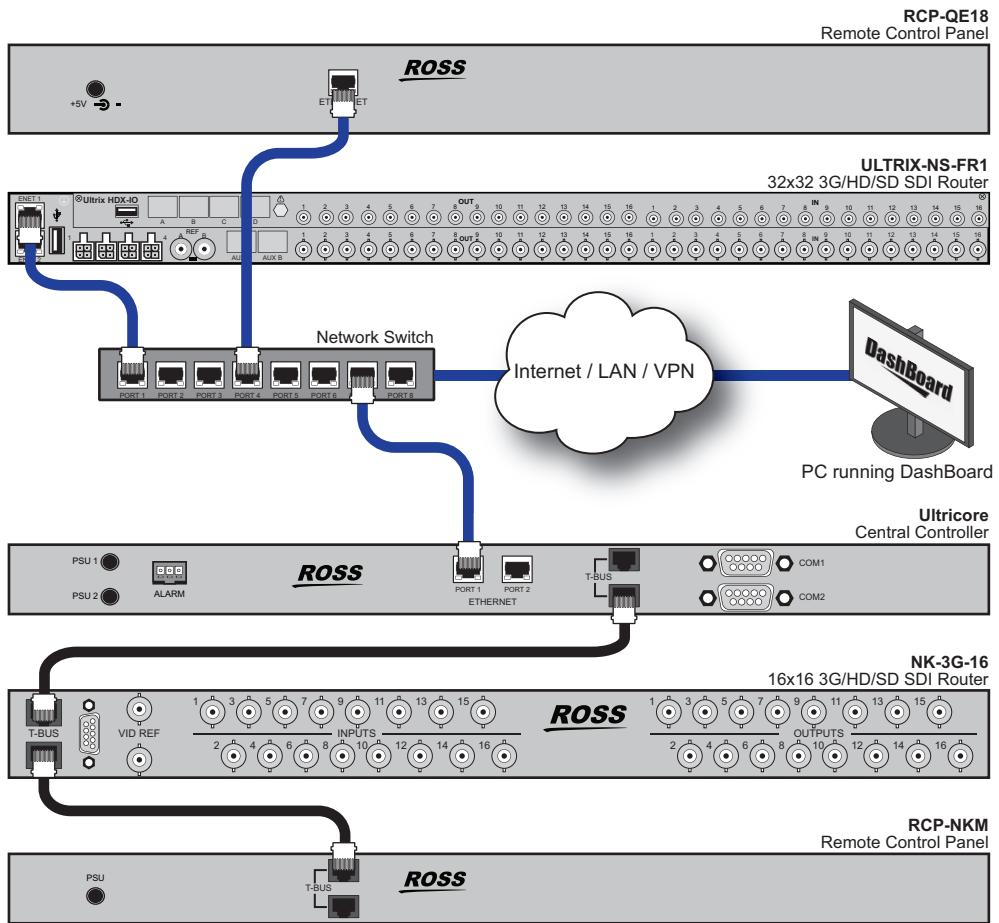

Figure 46 Example of a Routing System with Ross NK Devices and an ULTRIX-FR1 Router
- Connect the NK device via the T-Bus connections on an Ultricore and then set up communications via the Ultricore interface in DashBoard. (**Figure 46**)
Adding an Ultricore Central Controller (CC) to the system allows for native T-BUS devices to be added to the system, as well as RS-232 or RS-422 third-party control. The Ultricore communicates over Ethernet to devices in your routing system. **Figure 46** shows a typical connection of Ultricore